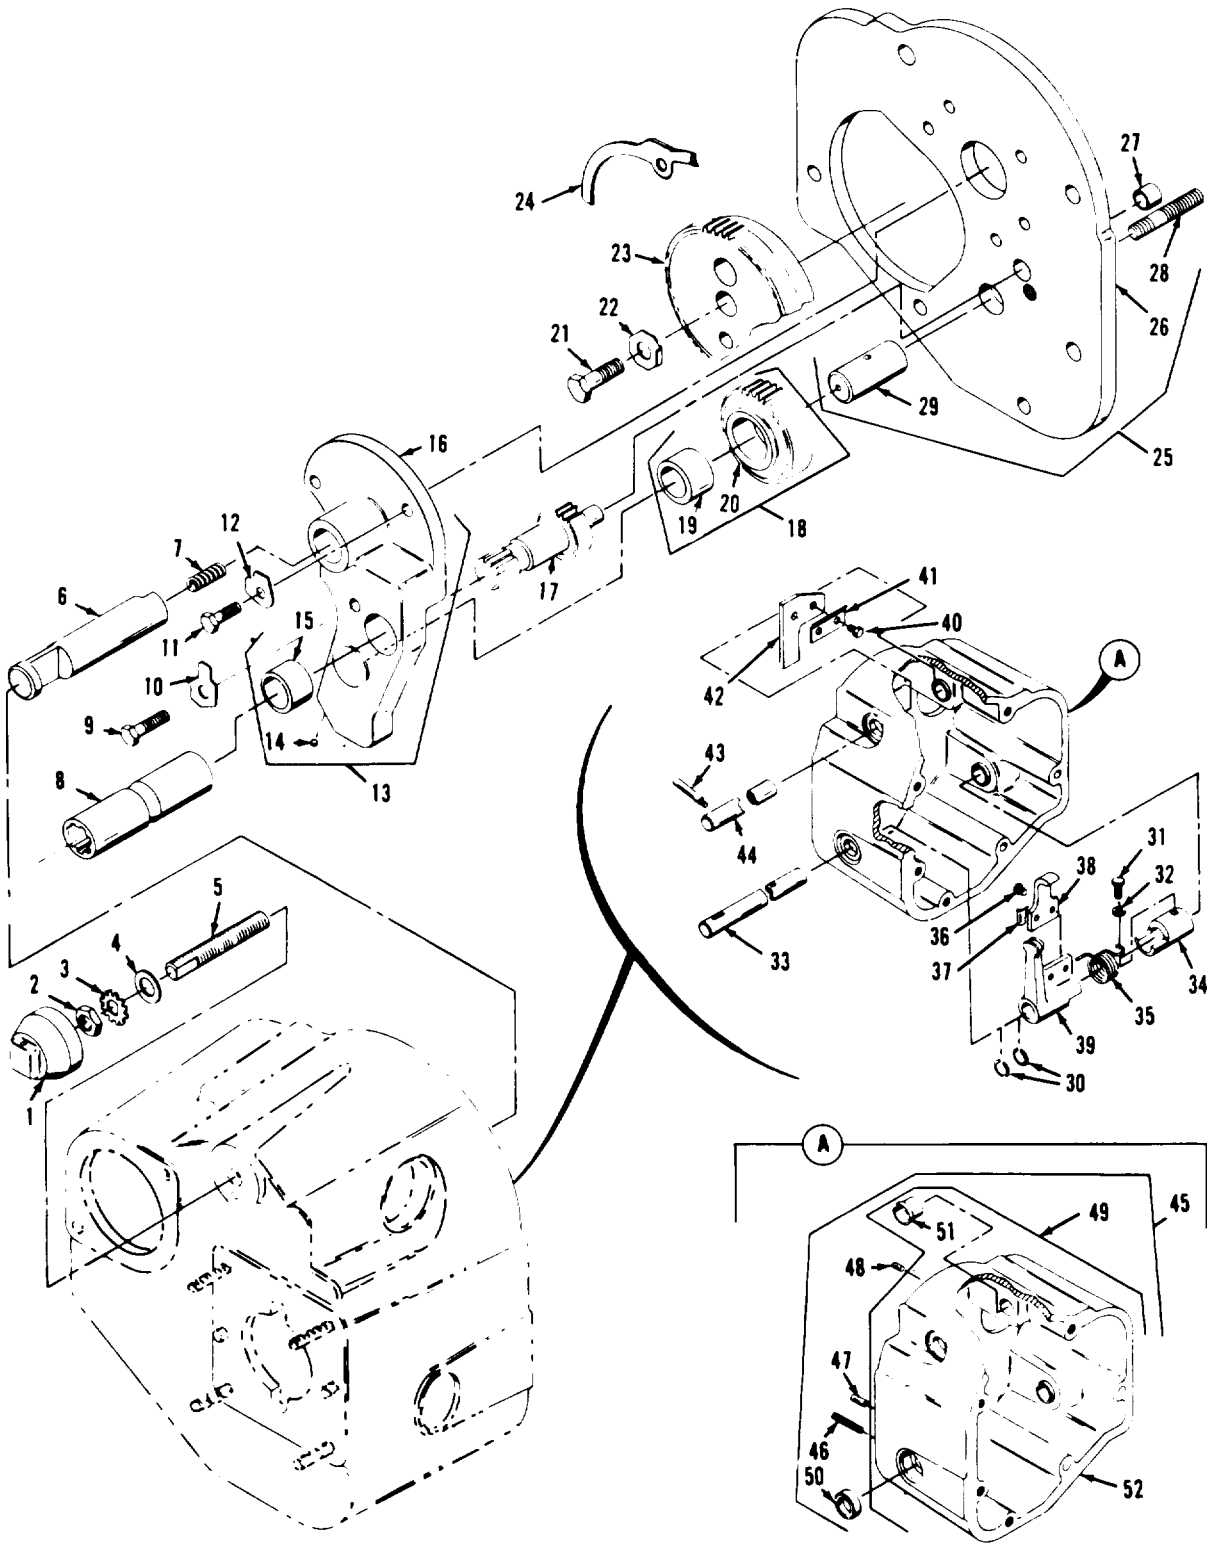
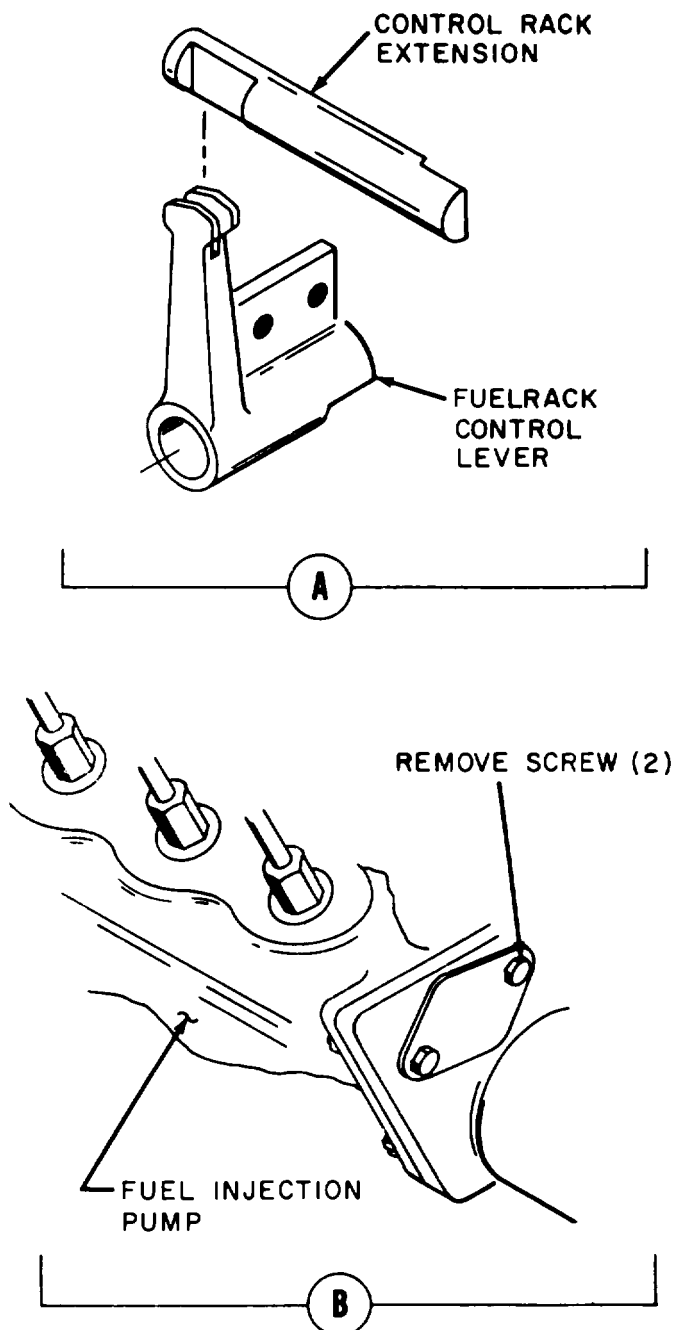

Figure 8-34. Governor drive housing, exploded view
Figure 8-36. Engagement of control rack to control lever
Legend to figure 8-34:
1. Inspect bushings (15, 19, and 27, figure 8-34) for scoring, excessive wear, and other damage. Replace worn bushings.
3. Inspect shaft (29) for wear. Check to see that all four oil holes are open and clean.
4. Inspect shaft bushings (51) for excessive wear and for grooving. Replace defective bushings.
5. Discard gaskets (24) and seals (50).
1. Repair gear (20 and 23, figure 8-34) teeth that have small nicks with a fine hone.
2. Clean plugged oil holes in shaft (29) using a small piece of wire. Do not attempt to redrill holes.
14. Install high speed stop screw (19) to the distance noted during disassembly paragraph 8-135, step a. 3.
b. GOVERNOR DRIVE HOUSING. Refer to figure 8-34 and reassemble governor drive housing in the reverse order of index numbers assigned. Pay particular attention to the following:
1. Assemble items (30 through 51) in housing (52).
2. Press bushing (27) into plate (26) with open end of bushing flush with housing side of plate.
3. Press shaft (29) into plate (26) flush with fuel injection pump side of plate.
4. Assemble items (11 through 23) to plate (26). Secure all lock plates. Gears (20 and 23) are not timed.
1. Install plate assembly (12) to rear of fuel injection pump. Plate assembly is located with two dowels secured in pump housing. When installing plate assembly, drive gear (23, figure 8-34) will slide over the extended camshaft on fuel injector pump. Rotate gear (23) until dowel pin on pump camshaft engages hole in rear face of gear (23).
3. Install rack extension (6, figure 8-34) and compression spring (7) through plate assembly (13) until rack extension contacts fuel inject on pump control rack. Press in to collapse spring and rotate until collar on rack extension (6) locks over the fuel injection pump rack land. Slide entire rack assembly back and forth to ensure that parts are not binding. The double notch at the housing end of the rack extension (6) should be in a vertical position.
4. Refer to figure 8-36 (view B). Remove two screws from front of fuel injection pump. Insert finger and push control rack back. Note that entire rack and each extension move together. View A of figure 8-36 illustrates how the rack extension will engage the control lever.
5. Rotate shutdown lever handle (44, figure 8-34) to downward position. Pull control rack extension to the rear. With complete drive housing in left hand and with fingers of right hand on control shaft (33), position drive housing onto face of rear cover plate (25) approximately 3/4 inch below top of rear plate. Slowly raise drive housing while rotating control shaft (33) back and forth until engagement is felt between the lever and rack extension (figure 8-36, view A). Raise drive housing completely, and secure with bolts (2, figure 8-32) and lock washers (3).
6. With finger inserted in opening or front of injection pump (figure 8-36, view B), and touching control rack, rotate control shaft lever (33, figure 8-34) back and forth. Control rack should follow in
Under no condition should the control lever (39, figure 8-34) or the rack extension be filed to make an easier fit. If the parts do not mate, it is only because the parts are damaged and should therefore be replaced, or the parts have been assembled incorrectly,
1. Using an approved rack setting gauge, refer to figure 8-36, view B, and remove two screws, flange, and gasket from flange at rear of accessory drive housing.